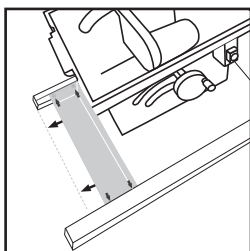

Fig. 1
- Align the table extension with the end of the rear slide rail. **(Fig. 1)**